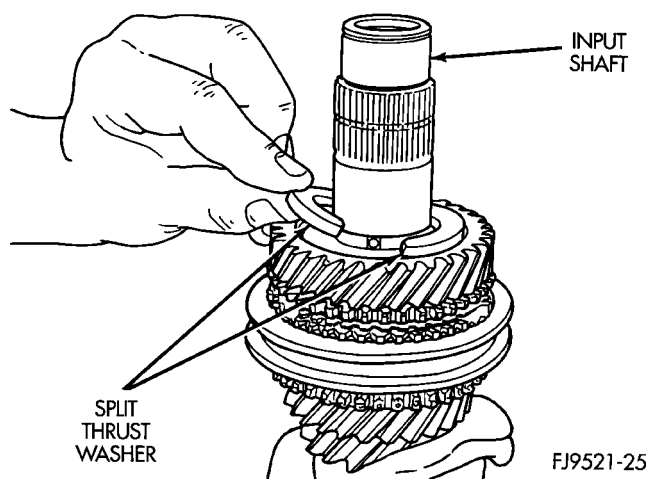

Fig. 92 Split Thrust Washer Installation
(8) Install split thrust washer onto input shaft (Fig. 92).